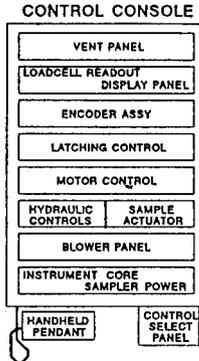

Figure 3) Control Console
- **CONTROL CONSOLE** (Refer to Figure 3 on Page 12): ENCODER ASSEMBLY AC and DC power switches off, LATCHING CONTROL power and lockout reset keyswitches off, MOTOR CONTROL power and up/down switches off, HYDRAULIC CONTROL switches in spring loaded (off) position, SAMPLE ACTUATOR switches in spring loaded (off) position, INSTRUMENT POWER circuit breakers off.
Figure 3 below, indicates the location of the console control panels.
7.1.1.4 · ACTIVATE all breakers on the INSTRUMENT CORE SAMPLER POWER panel, (see Figure 3 below), of the control console.